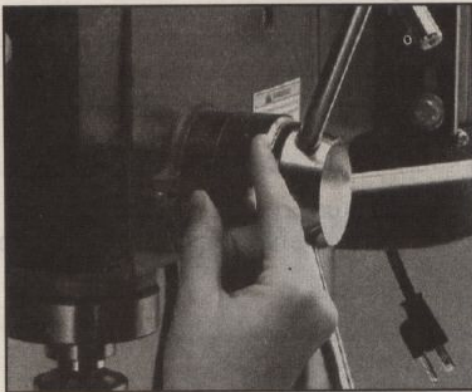

Figure 15
1. Loosen the depth collar lock knob as shown in **Figure 15**.